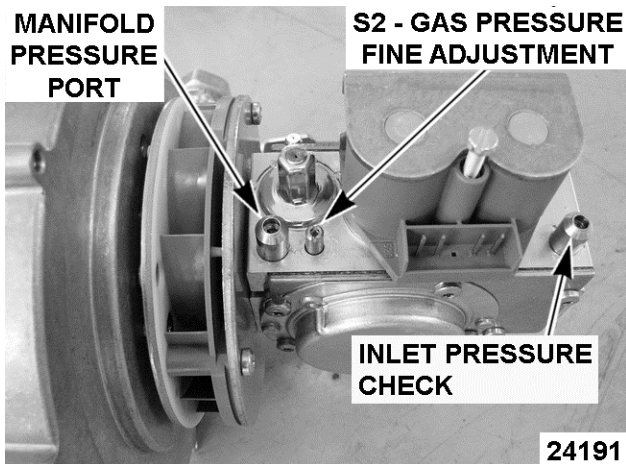

Fig. 48
10. Turn fine adjustment screw on gas valve clockwise all the way in. (Fig. 48)
11. Adjust gas valve fine adjustment screw for type of gas. (Fig. 48)